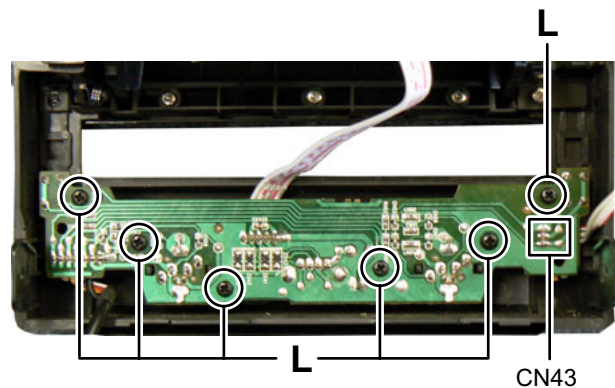

Fig. 14
3.1.9 Removing the Display board (see Fig.14 to 16)
- (1) Remove the six screws **L** attaching the USB board. (See Fig.14)
(2) Disconnect the connector wire from Display board connected to connector **CN43** of the USB board. (See Fig.14)